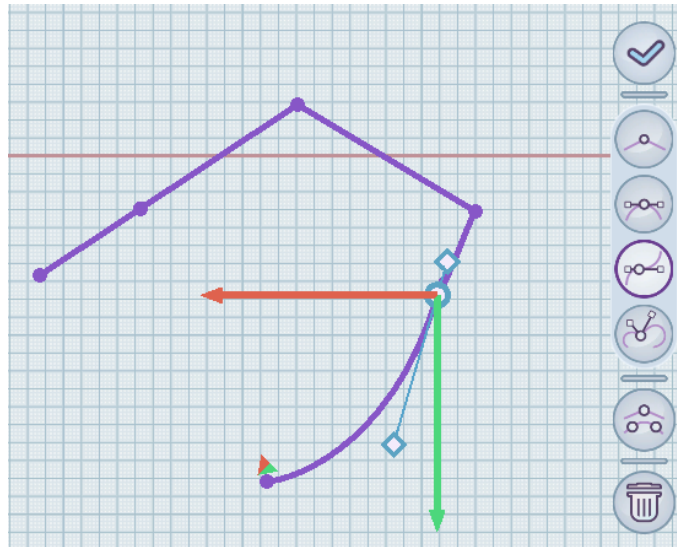

Figure 84 – Adding a point to a curved spline segment
- if on a curved segment, then the point type is curved. By default, an asymmetrical controller is enabled for the added point (the button is active in the context menu  (Figure 84).